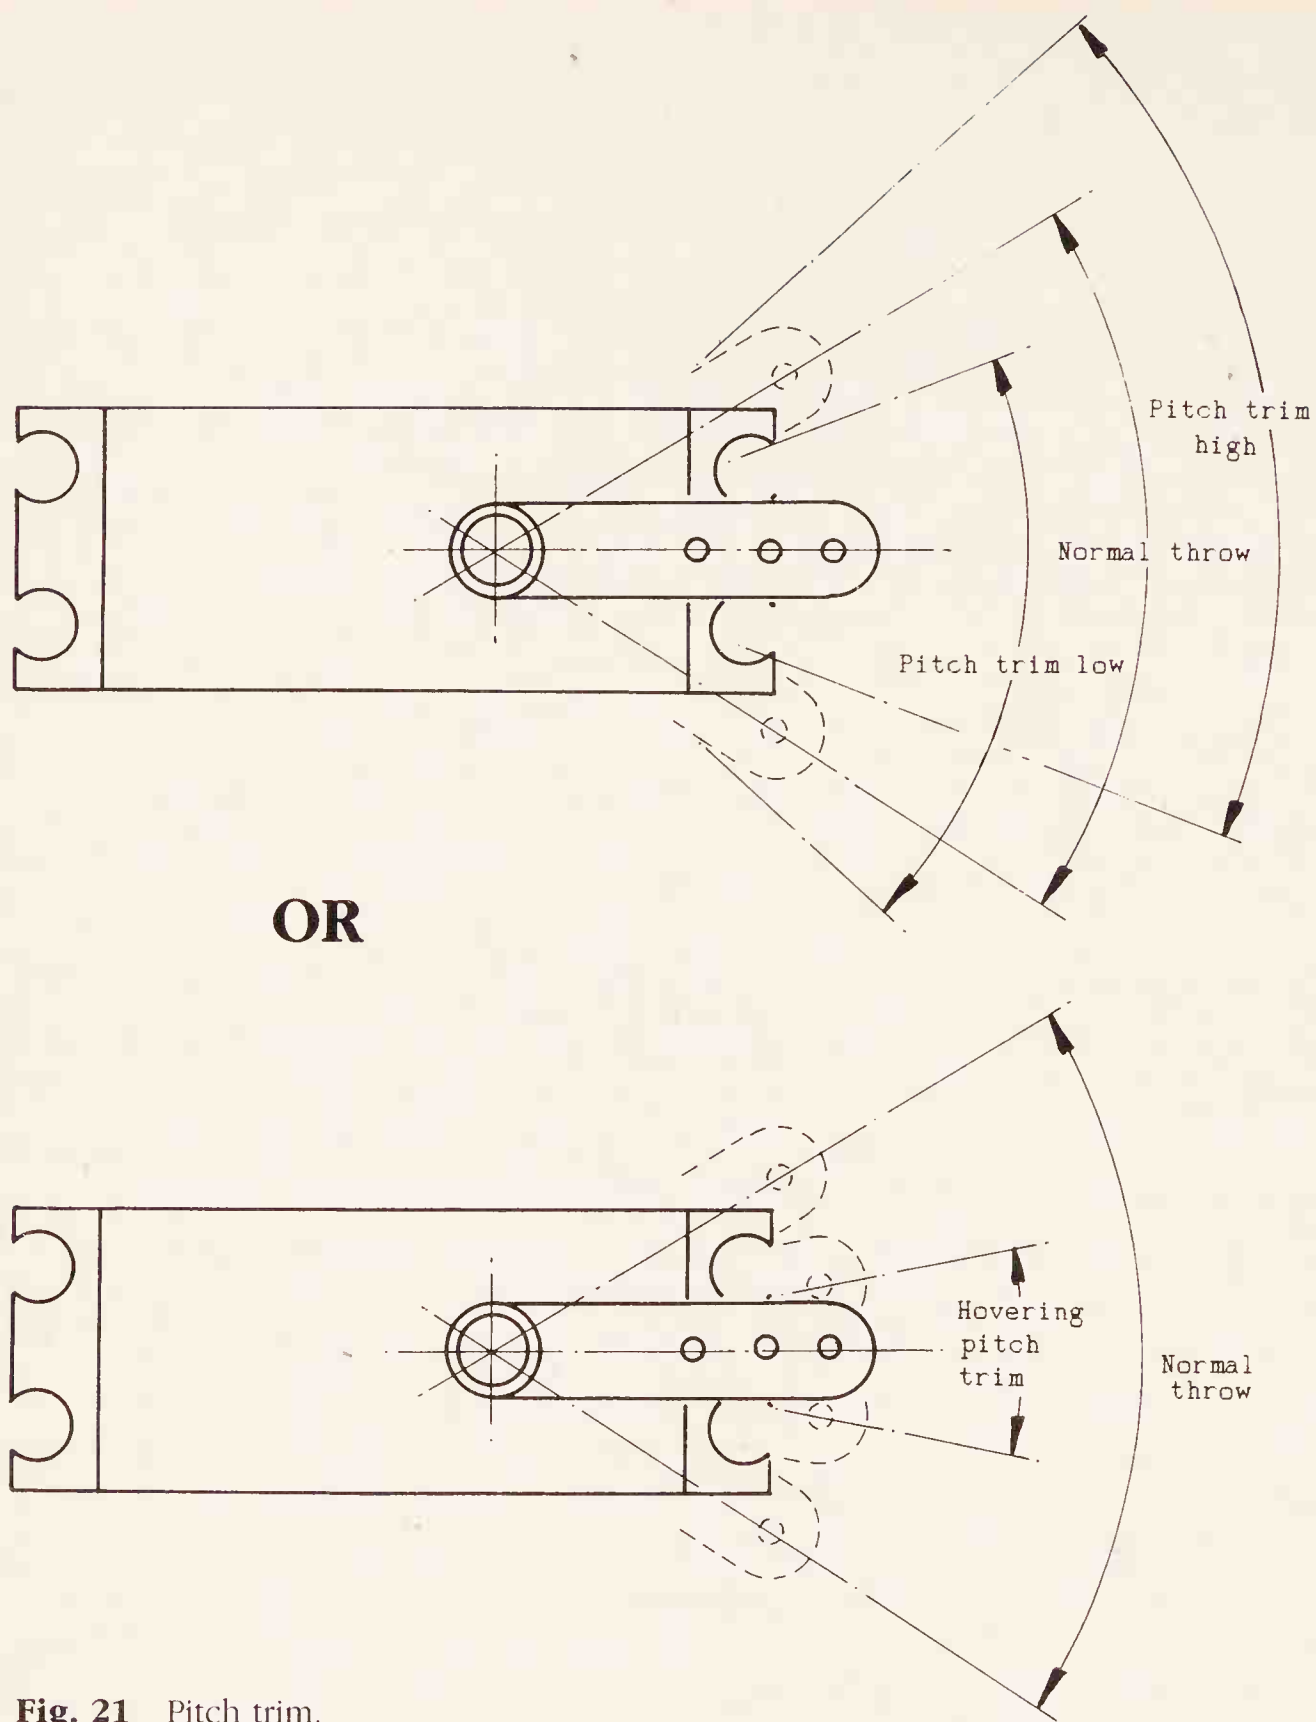

Fig. 21 Pitch trim.
- (d) A pitch trim control which may affect the whole of the pitch range or, in some cases, just the centre portion of the range and will then be called 'hovering pitch' (Figure 21).